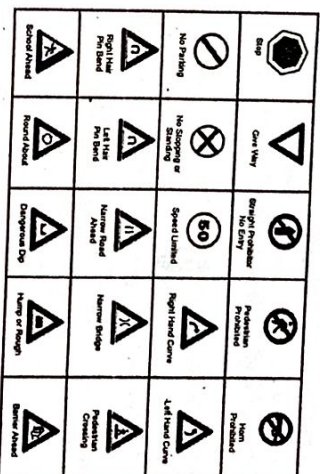

Fig. 1
1. Mandatory Signs: These signs are used to ensure free movement of traffic and make the road users cognizant of certain laws and regulations, restrictions and prohibitions. Violation of these signs is an offence, as per law. Some mandatory signs are shown in figure 1.